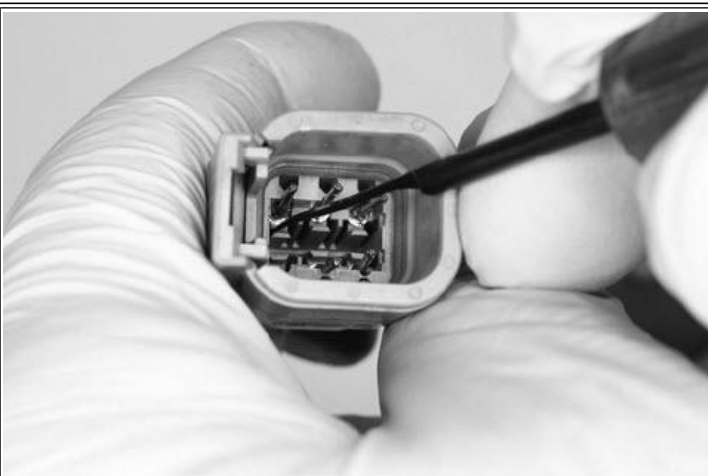

Figure 16 - Terminal Lock
10. Using pick tool or small flathead screwdriver, remove terminal wires by depressing each terminal lock while pulling corresponding wire out through rear of connector (*Figure 16*).